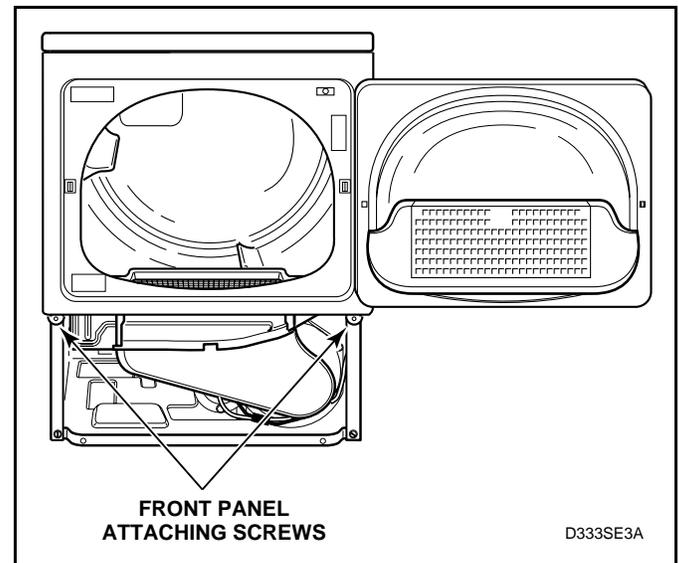

Figure 24
- k. Remove two screws holding bottom tabs on front panel to dryer cabinet. Swing front panel away from dryer to disengage hold-down clips and locators from cabinet top. See *Figure 24*.
- j. Remove two screws holding bottom tabs on front panel to dryer cabinet. See *Figure 24*. Swing front panel away from dryer to disengage hold-down clips and locators from cabinet top.
- k. Remove two screws holding bottom tabs on front panel to dryer cabinet. See *Figure 24*. Swing front panel away from dryer to disengage hold-down clips and locators from cabinet top.